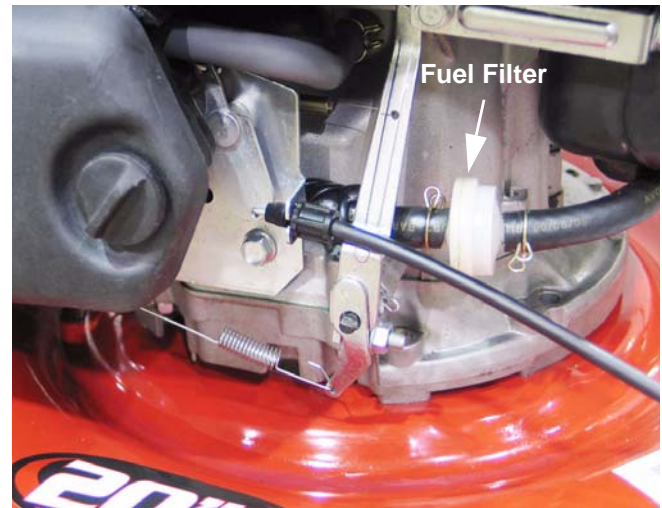

Figure 2.7
1. Some of the early engines were equipped with a fuel filter placed between the fuel tank and the carburetor. See Figure 2.7.